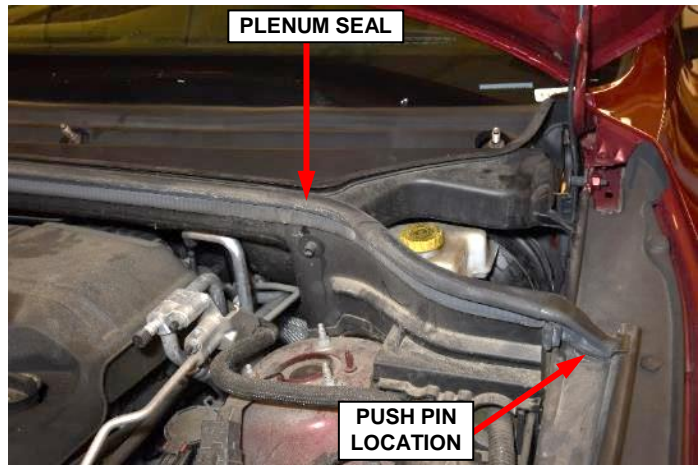

Figure 34 – Plenum Seal
8. Install the plenum seal and seat fully (Figure 34).